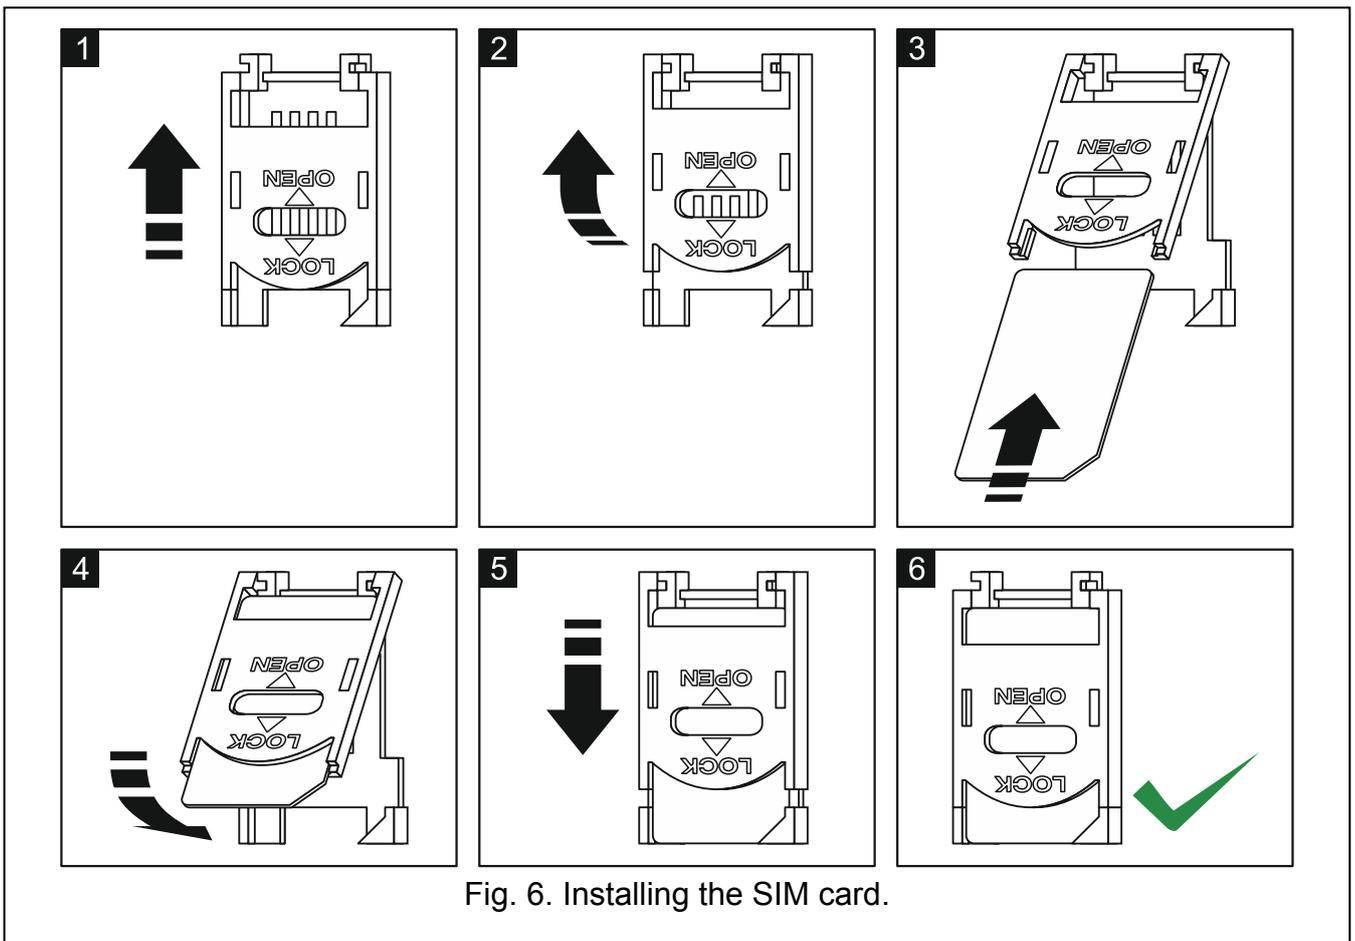

Fig. 6. Installing the SIM card.
8. Insert the SIM card into the socket (see: Fig. 6).